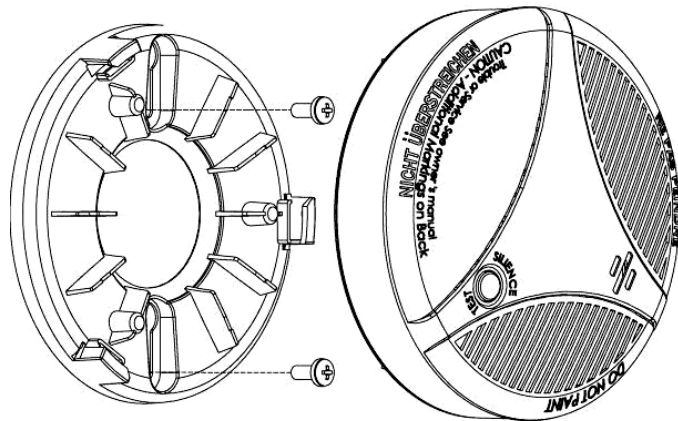

Fig. 9: Mounting the Mounting Bracket
9. Line up the slot in the Mounting Bracket with the slot in the detector. Push the detector onto the Mounting Bracket and turn it clockwise to secure. Gently pull the detector to ensure it is securely attached to the Mounting Bracket, shown in **Fig. 9**.